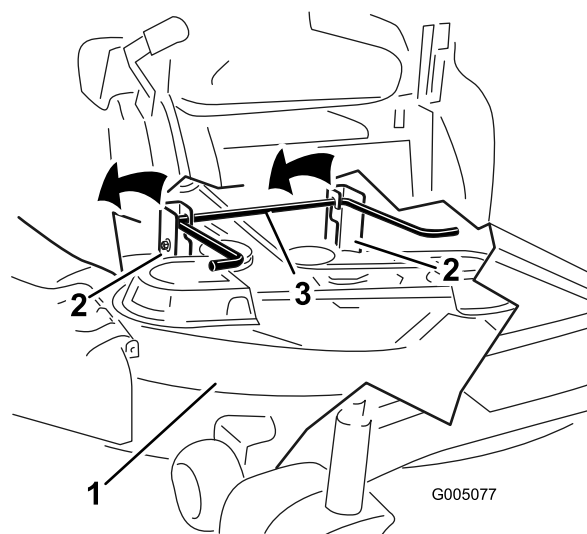

Figure 64
5. Lift the mower deck and hanger brackets clear of the rear lift rod and lower the mower carefully to the ground (Figure 64).
- Lift the rear of the mower deck and guide the hanger brackets over the rear lift rod (Figure 64).